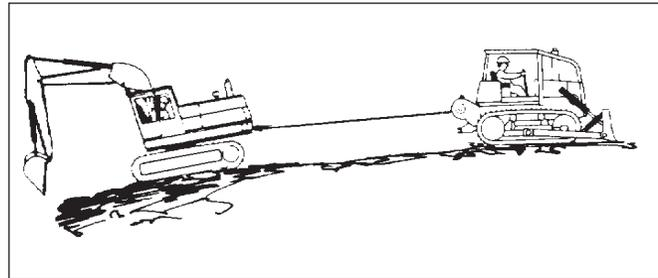

Figure 19 - Moving a Disabled Vehicle (Step B)
B. A tractor or skidder equipped with a winch can be used to pull another vehicle from mud or other areas where it cannot move using only the drive wheels or tracks. See Figure 19. Use the following procedure: